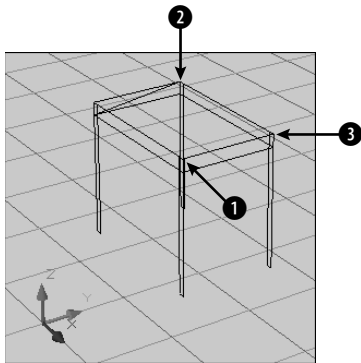

**Figure 21-10:** The piano bench after being shrunk with the STRETCH command.
3. Choose Stretch from the Modify toolbar. Use a crossing window to select the right side of the bench. Eight objects should be selected. End object selection. At the Specify base point or [Displacement] <Displacement>: prompt, use the Endpoint object snap to pick ❶ in Figure 21-10. At the Specify second point of displacement: prompt, type `-15,0` ↵. (If you're not using Dynamic Input, type `@-15,0`.)
Specify first point: Choose ❷ in Figure 21-10.